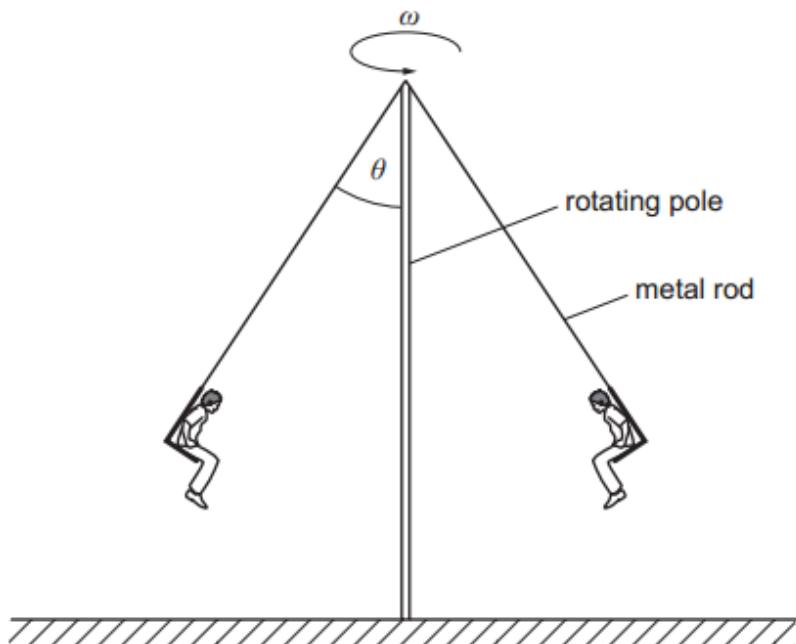

Fig 1.1
- 1 A fairground ride carries passengers in chairs which are attached by metal rods to a rotating central pole, as shown in Fig 1.1. When the pole rotates with angular velocity ω , the rods make an angle θ to the vertical.